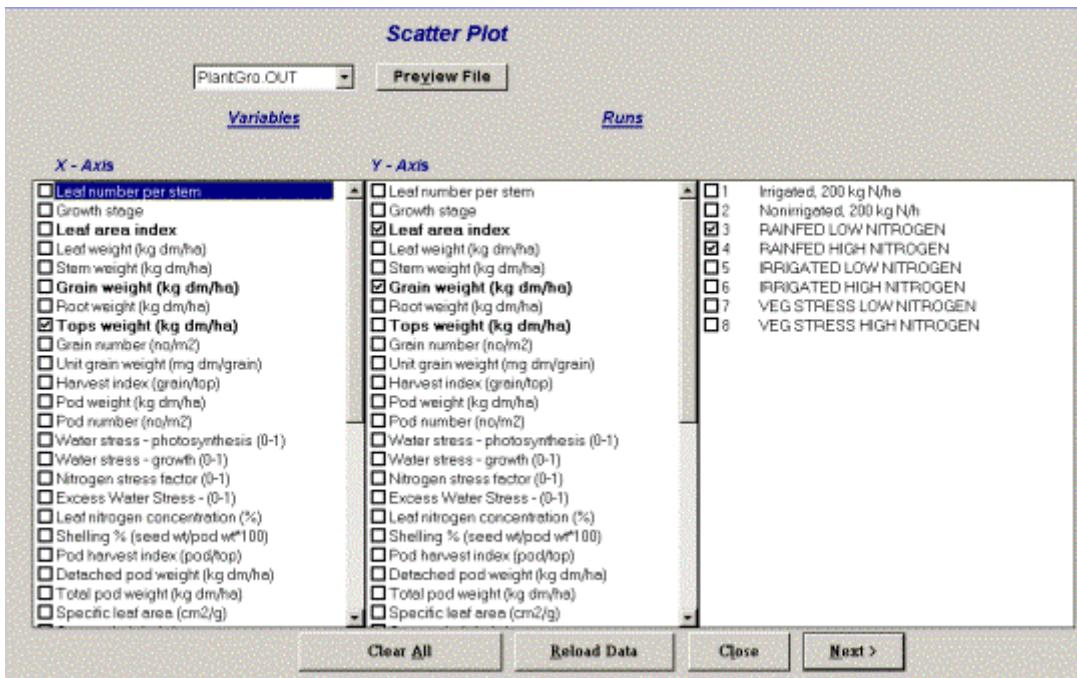

Figure 15. Selection screen for X vs. plotting.
a) Scatter option allows users to select a variable for the X-axis and several other variables for the Y-Axis. Simulated data will be plotted together with experimental data if it is not indicated otherwise. On **Selection** screen, the variables with available experimental date are listed bold. When one or more files are selected, **Selection** screen will be opened. The user may select any combination of the variables and runs. . The **Clear All** button will remove all selections. The **Reload Data** button will read the selected file again and reload the data. The **Close** button will close the screen. The **Next** button will open the **Graph** screen and display the graph (Fig.15).